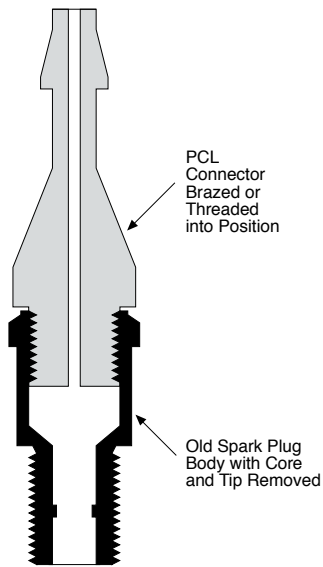

Fig. 1
1. Pressurise the cylinder via the spark plug hole with the shop airline. A simple adapter is easily made from an old spark plug (fig. 1) and a pressure of 7 bar (100 psi) will keep the valve firmly in place. If leakage occurs at too fast a rate, the head should be removed anyway for attention to the valves or cylinder.